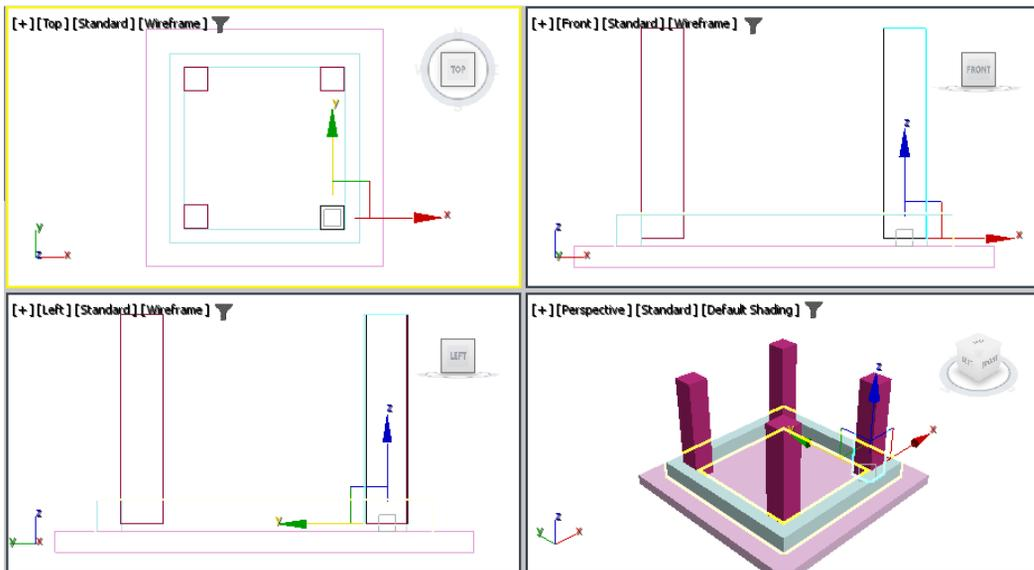

Figure 5-7 The four legs of the table created and aligned to their correct places
- Similarly, create a copy of *Leg03*. Next, name it as **Leg04** and place it at the lower-right corner of *Frame*; the four legs of table are created and aligned, as shown in Figure 5-7.